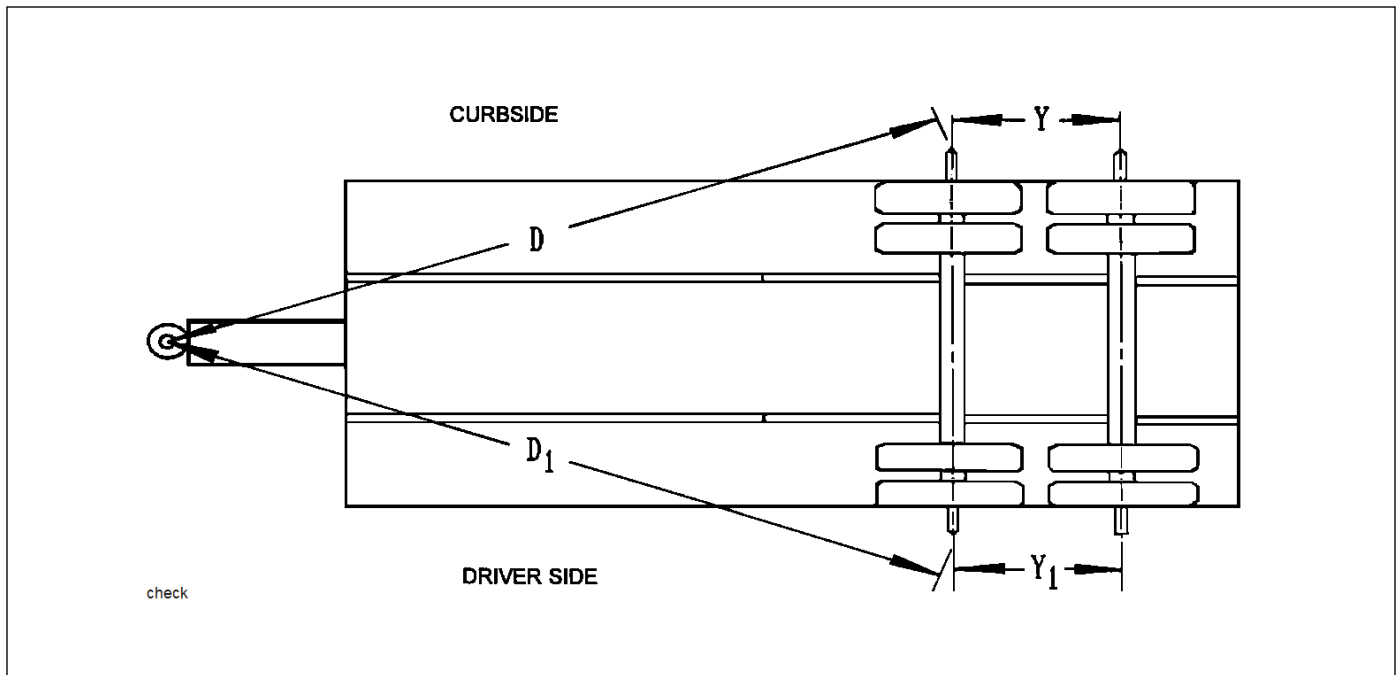

Figure 4-6: Checking Axle Alignment
3. Move the axle gauge and place against the back side of the axle. If either of the points of double point end fails to touch the axle surface, a bent spindle is evident. A point gap of .015" or more is considered excessive tire “toe” and the axle must be replaced **(See Figure 4-6.)**
4. Measure (D) from the plumb bob to the center point on one end of the axle. Record this measurement **(See Figure 4-6.)**
5. Measure (D1) to the other end of the axle in the same manner as in **step 4**. Record this measurement **(See Figure 4-6.)**